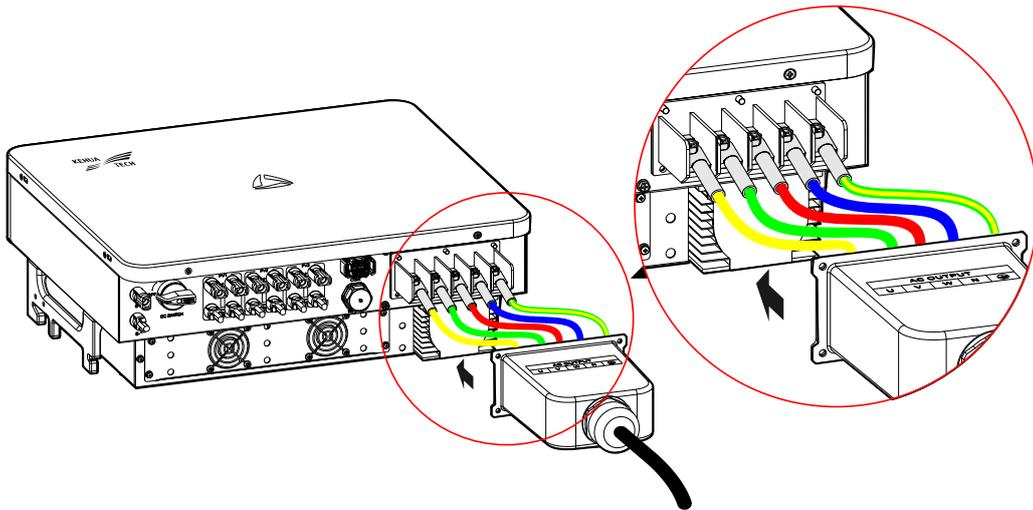

Figure3-26 Connect the AC output wire
Step 2 Draw the AC output wire through the AC output waterproof cover, crimp them to the DT/OT terminals, and then fasten them to corresponding wiring terminal by screwdriver, as shown in Figure3-26.